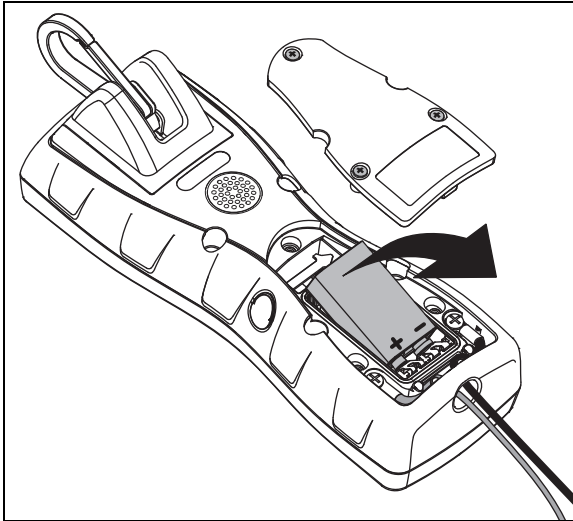

Figure 2. How to Replace the Battery
See Figure 2.
- 1 Use a Phillips screwdriver to loosen only the three screws on the battery door (Figure 2).
- 2 Remove the battery door and battery from the test set. (Figure 2)